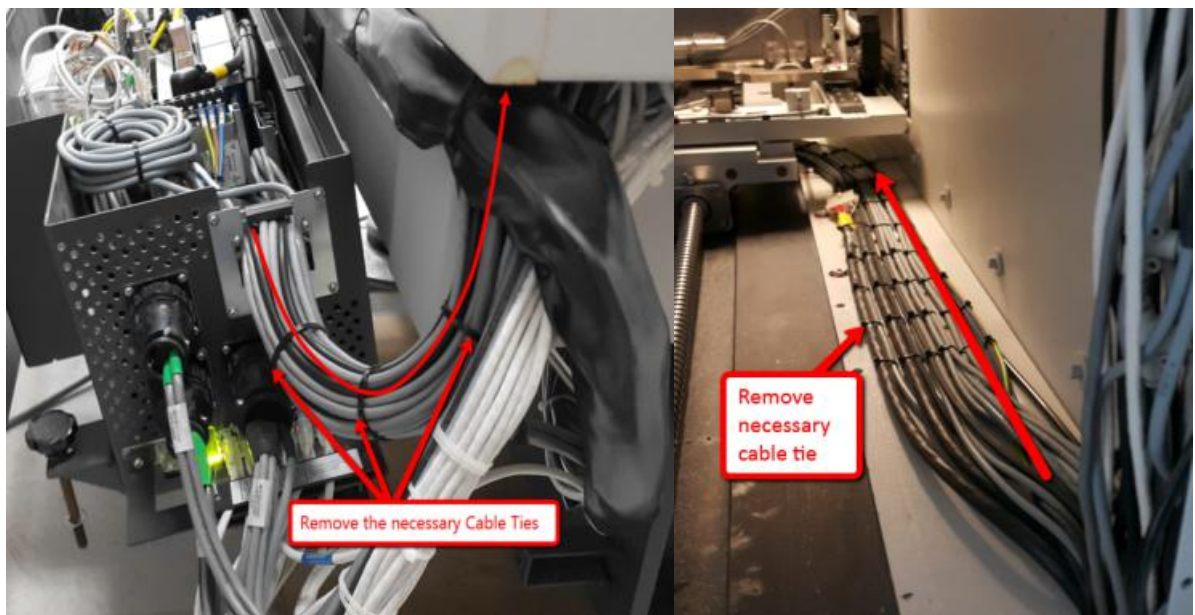

Figure 7
7. Loosen 2 screws and remove bracket as shown in Figure 7.